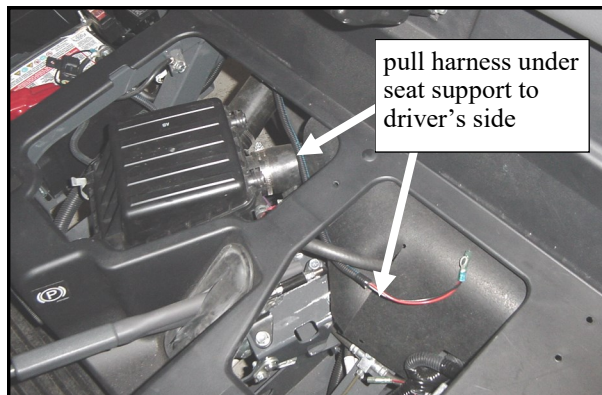

Fig. 3.6b (view from driver's side) (RTV 400)
3.6b Per fig. 3.6b, feed the harness under the seat support and into the driver's side under-seat compartment.